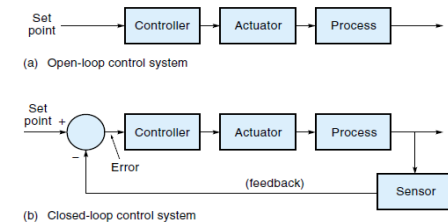

Figure 6.1 Open- and closed loop systems.
- In an **open-loop system** [Figure 6.1(a)],
- In a **closed-loop system**, also known as a **feedback control system**, the output of the process is constantly monitored by a sensor [Figure 6.1(b)].